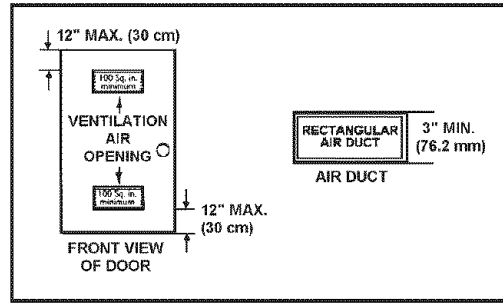
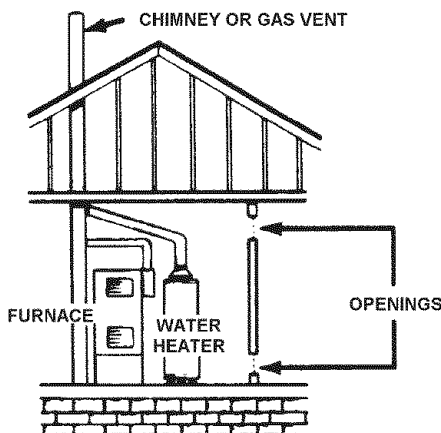

FIGURE 9.
FIGURE 10.
A gas water heater cannot operate properly without the correct amount of air for combustion, see Figure 9. Do not install in a confined area such as a closet, unless you provide air as shown in the *Locating The New Water Heater* section. Never obstruct the flow of ventilation air. If you have any doubts or questions at all, call your gas supplier. Failure to provide the proper amount of combustion air can result in a fire or explosion and cause death, serious bodily injury, or property damage.
(See Figure 9 on page 9 and Figure 10 below)
B. ALL AIR FROM OUTDOORS: (See Figures 9, 11,12 and 13)